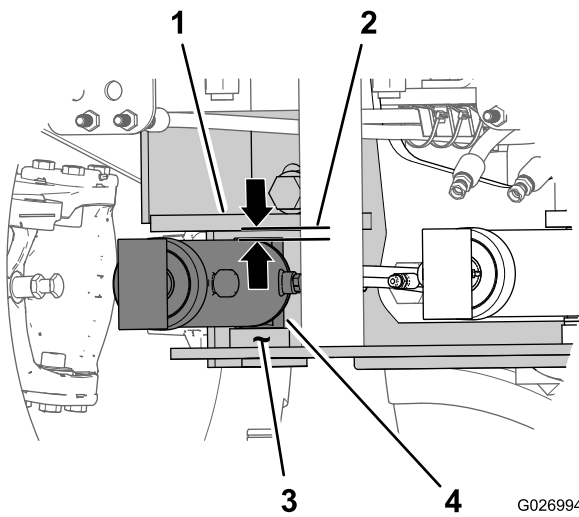

Figure 13
2. Align the mounting fitting at the fixed end of the pivot cylinder on top of the bushing in the bottom plate of the mounting frame (Figure 13).
- Determine the number of washers (1 x 5/16 inch) needed to reduce the gap between the top of the cylinder mounting fitting and the cylinder lug of the mounting frame (Figure 13).